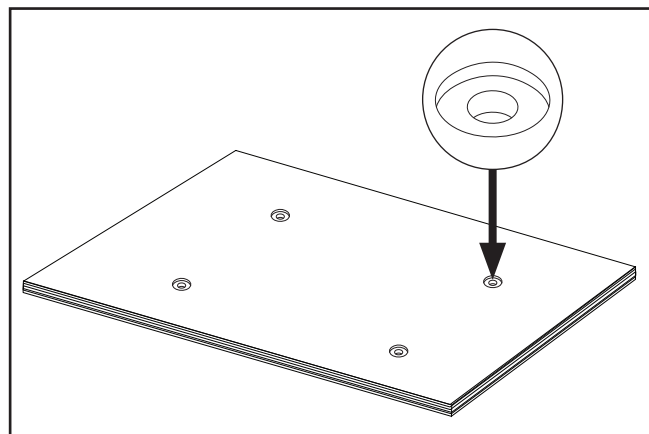

Figure 13. Countersunk mounting holes drilled in plywood.
8. Drill countersunk mounting holes at locations marked in **Step 7** (see **Figure 13**).